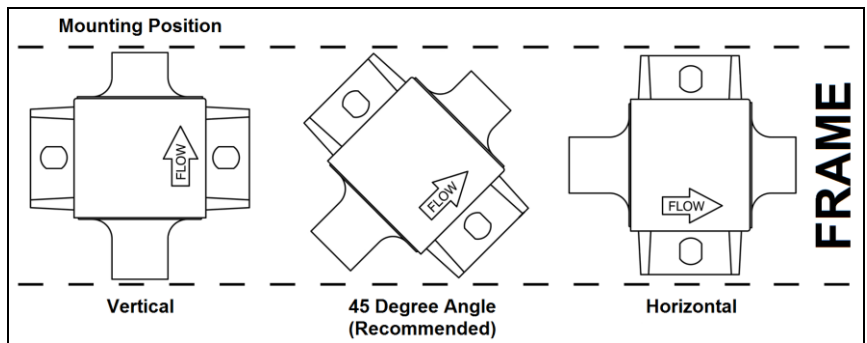

Figure 2
2. Position the pump in an upward direction at 45° away from the tank. Mark and drill (2) 7/32" holes into the frame aligned to the mounting bracket (**Figure 2**).